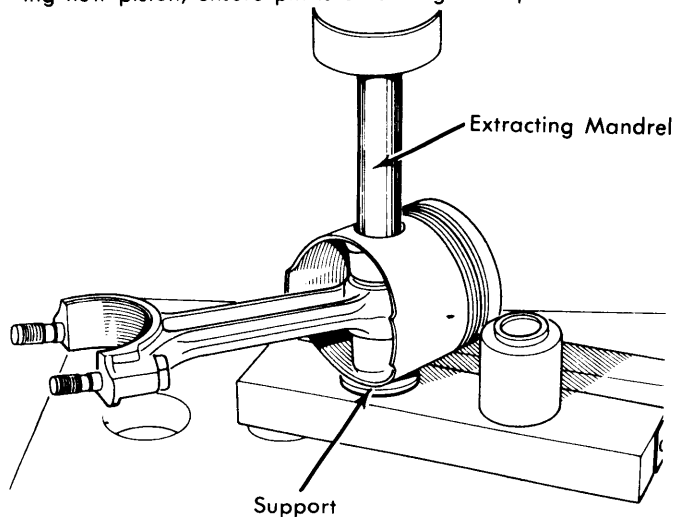

Fig. 5 Special Tool Assembly Mot. 255 for Extracting Piston Pin
- 1) After removing Piston assembly from liner, remove rings. Using suitable tool (Mot. 255) shown in Fig. 5 piston can be removed. Extract pin with appropriate adaptors.